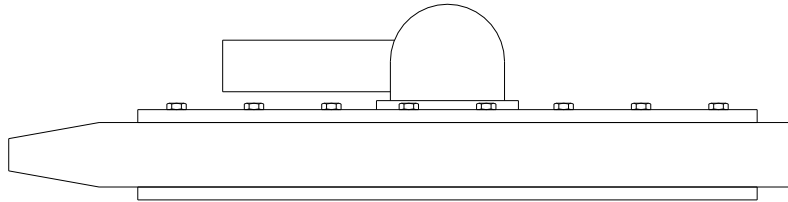

Fig 1
- 1) Ensure procedure is carried out in a clean and dry work area. Position the plate in work area with the bladder housing on top (fig 1).
- 6) Rotate position of plate on work area (fig 1) and re-assemble bladder protective cover over the bladder ensuring the bladder does not move during this process. Screw end-cap on and wipe clean any excess oil from the plate and work area.